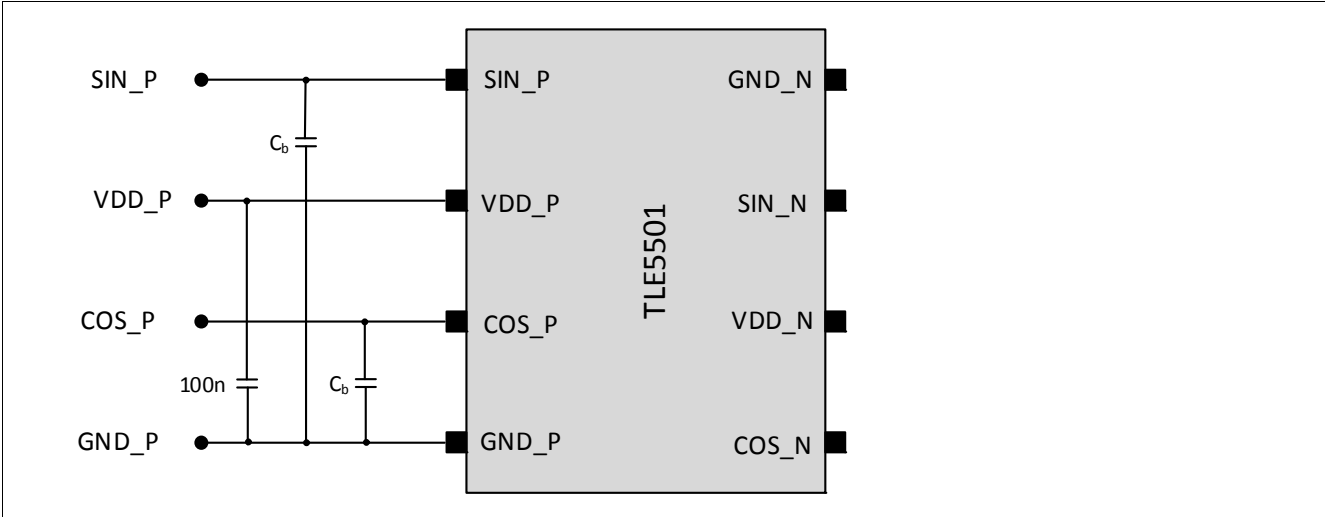

Figure 7 Application circuit for TLE5501 E0002, only one bridge used
**Figure 4** to **Figure 7** show the application circuit which is proposed for TLE5501. The value for the buffer capacitor  $C_b$  has to be adjusted according to the speed of the magnetic input signal. It represents a low-pass filter together with the TMR resistor and limits the bandwidth of the sensor, improves, however, noise performance. Even without any buffer capacitor  $C_b$ , the bandwidth of the device is determined by the TMR resistor and the input capacitor of the used ADC. It has to be considered and the ADC sample and hold time has to be adjusted accordingly.